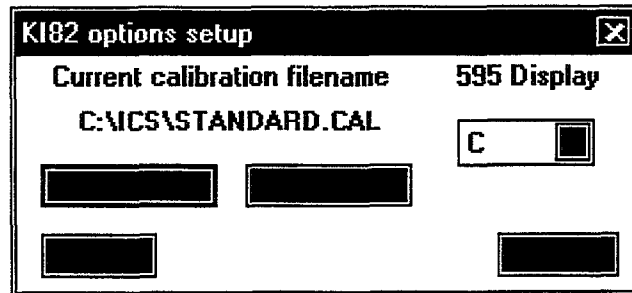

Figure 2 Options Setup Window
1. Click on the **Calibration** button, and the cable calibration window shown in Figure 2 will be displayed.